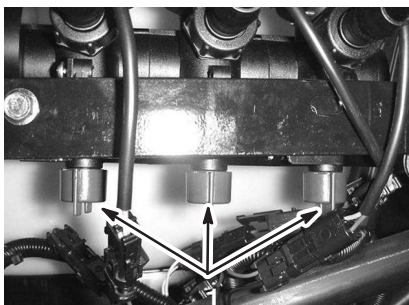

Figure 28
12. Adjust the boom bypass valve (Fig. 28) under the boom control valve for the boom you turned off until the pressure reading on the gauge is the same as it was in step 9.